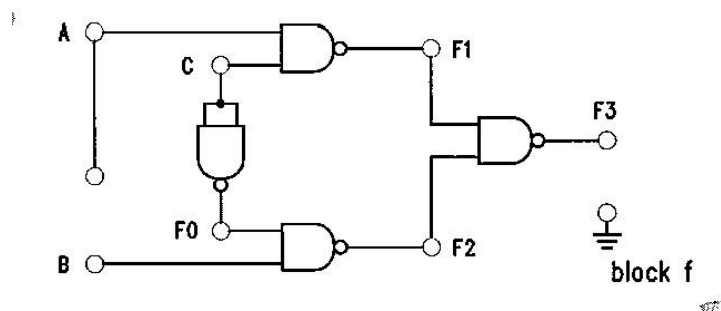

Figure 10.1
**10.1** Construct the circuit shown in Figure 10.1 on **block f** of lab module KL 34003. Connect data inputs A and B as well as selector C to toggle/ data switches (SW) and output F3 to logic indicator. Apply all possible input conditions to C, B and A in order as in Table 9.1. Record and discuss on the output results in the result sheet.